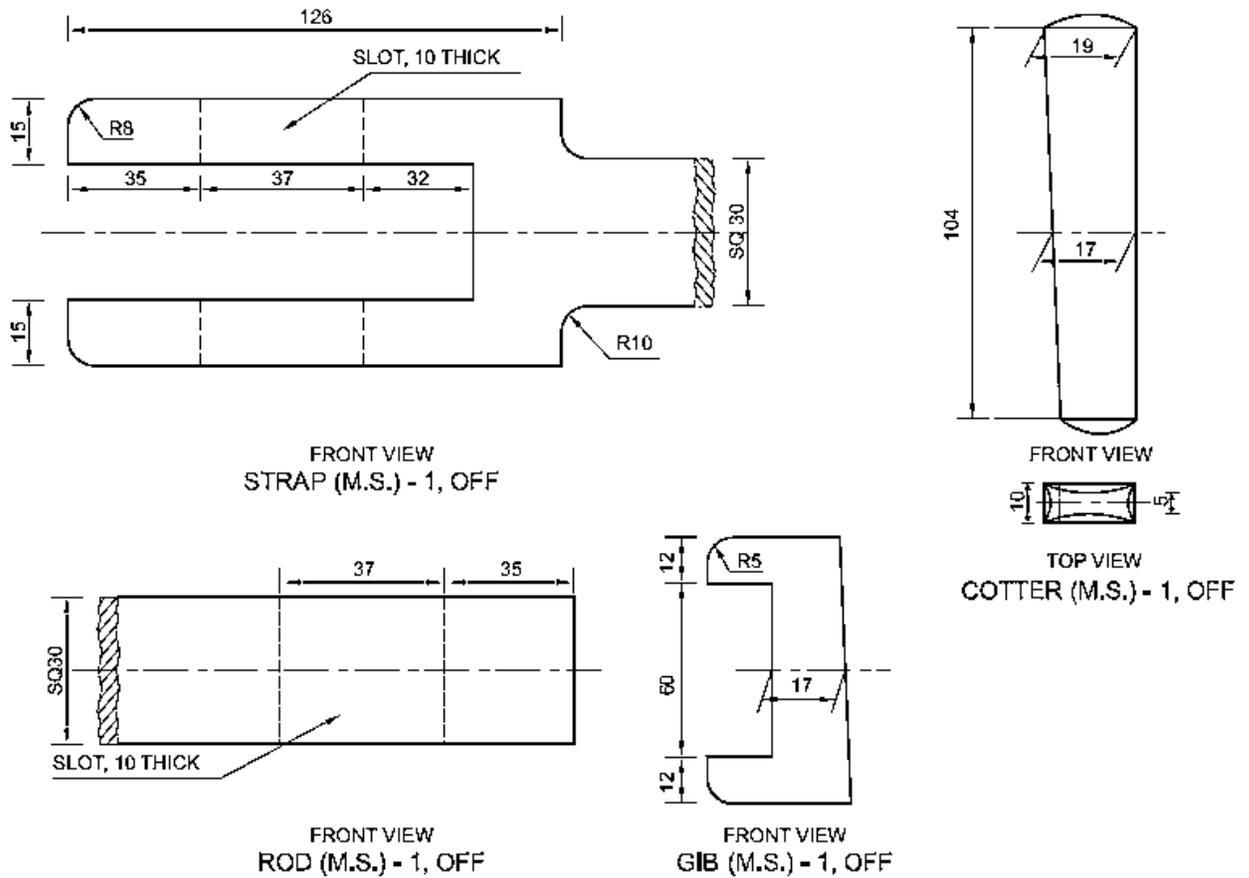

FIG 1. GIB AND COTTER JOINT
23. Figure 1 shows the details of parts of a Gib and Cotter Joint. Assemble all the parts correctly and then draw to scale 1:1; it's following views: